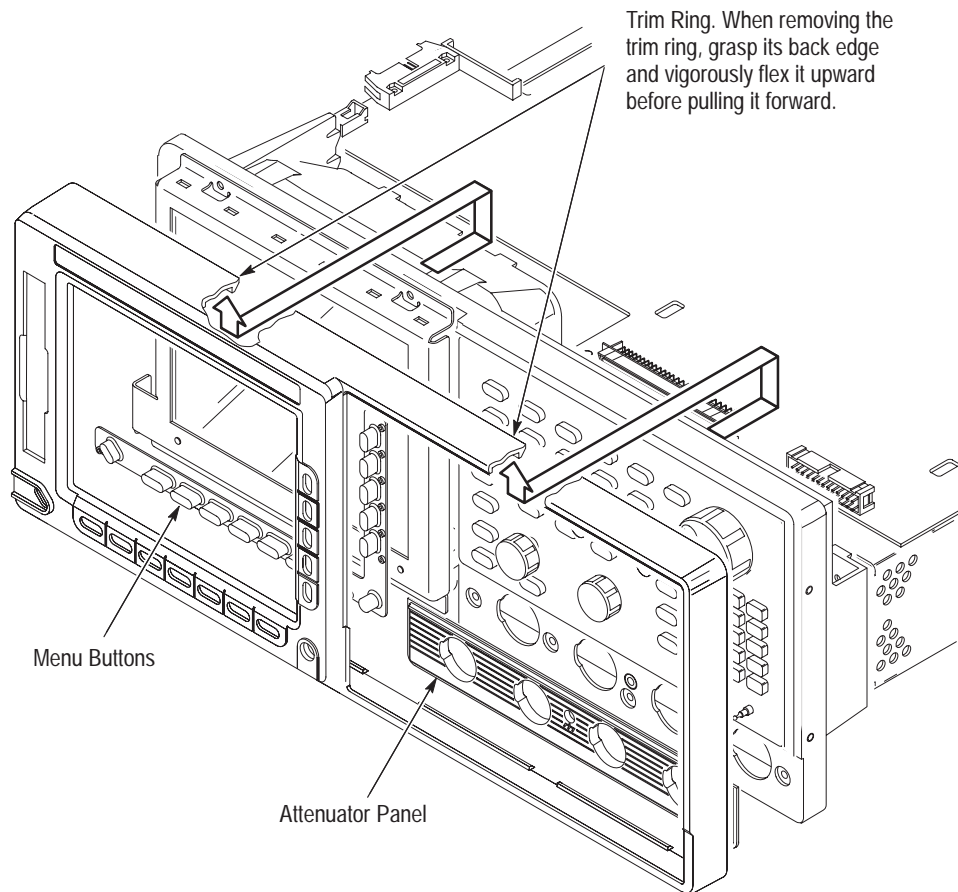

Figure 6-8: Front cover, trim ring, menu buttons, and attenuator panel removal (front cover not shown)
4. *Remove the trim ring:* Grasp the trim ring by its top edge and pry it up and lift it forward to snap it off of the front subpanel. If servicing the menu buttons, lift them out of the trim ring. (When reinstalling, reinsert the menu buttons, align the trim ring to the front subpanel and press it back on.) See Figure 6-8.